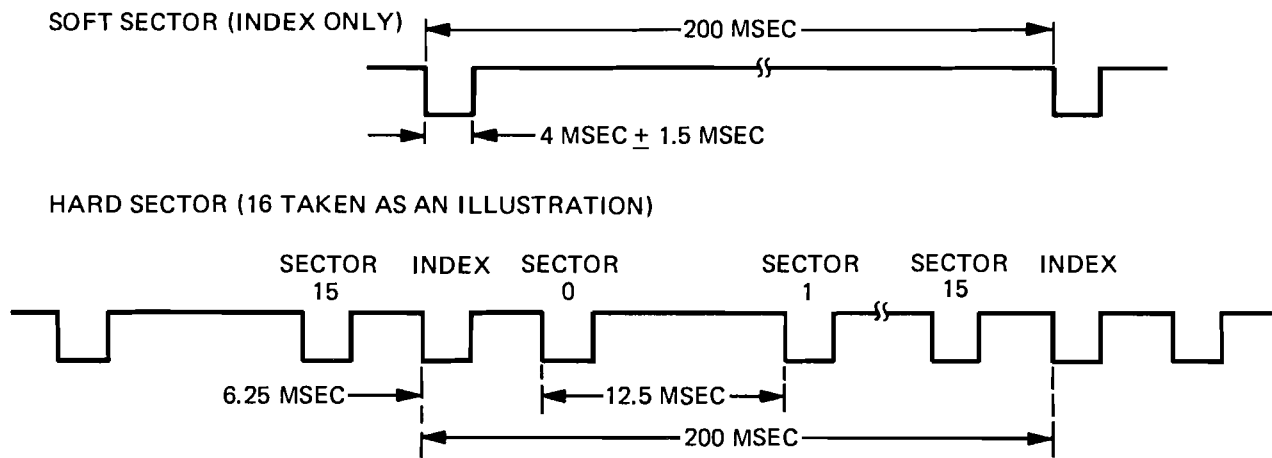

Figure 2-9. Index/Sector Timing
2.4.2.2 Index/Sector (J1-8). For soft sector operation that uses single-hole media, this line transmits a reference Index pulse once every diskette rotation to indicate the beginning of a track. For hard sector operation that uses multi-hole media, this line transmits the Index pulse and all Sector pulses, where Sector pulses indicate the beginning of a sector. Pulse width for both Index and Sector is  $4 \pm 1.5$  milliseconds. An optional set of photosensors are installed on some configurations of the Model FDD100-5 Disk Drive to enable either side of the diskette to be recorded. Index/Sector timing is shown in Figure 2-9.